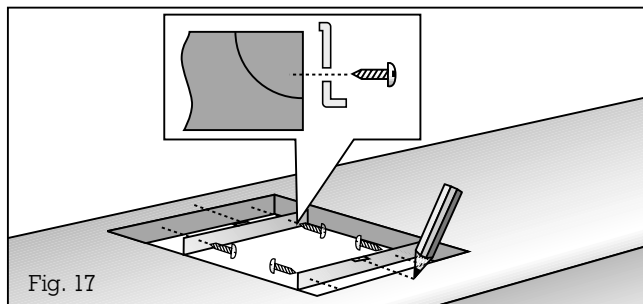

Fig. 17
- **Mark the centre of the recess exactly.** Secure the securing rails on both sides in the recess. Make sure that the lugs of the securing rails lie on the worktop and that the centre marking on the securing rails is precisely flush with the centre marking on the worktop (Fig. 17).